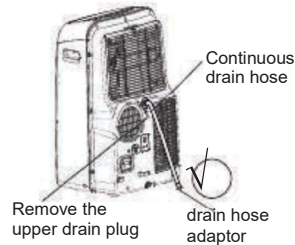

Fig.20a
- During dehumidifying modes, remove the upper drain plug from the back of the unit, install the drain connector(5/8-universal female mender) with 3/4 hose(locally purchased). For the models without drain connector, just attach the drain hose to the hole. Place the open end of the hose adaptor directly over the drain area in your basement floor. Please refer to Fig.20a.
NOTE: Make sure the hose is secure so there are no leaks. Direct the hose toward the drain, making sure that there are no kinks that will stop the water flowing. Place the end of the hose into the drain and make sure the end of the hose is down to let the water flow smoothly. (See Fig.20a,20b,21a). Do never let it up. (See Fig.21b).